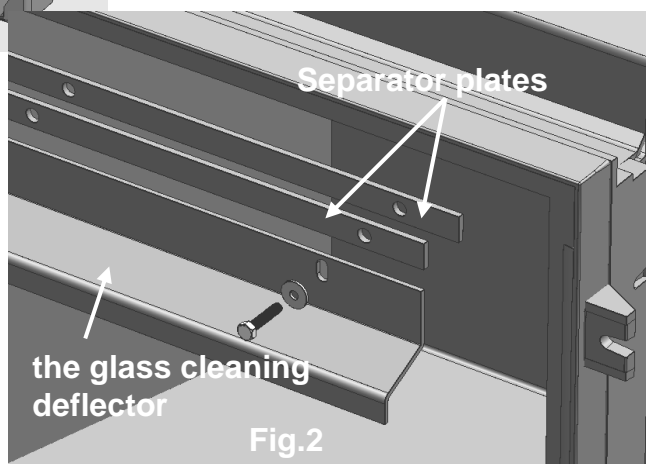

Fig.2
2. Remove the two separator plates (see Figure 2), which are not required for the Classic front.